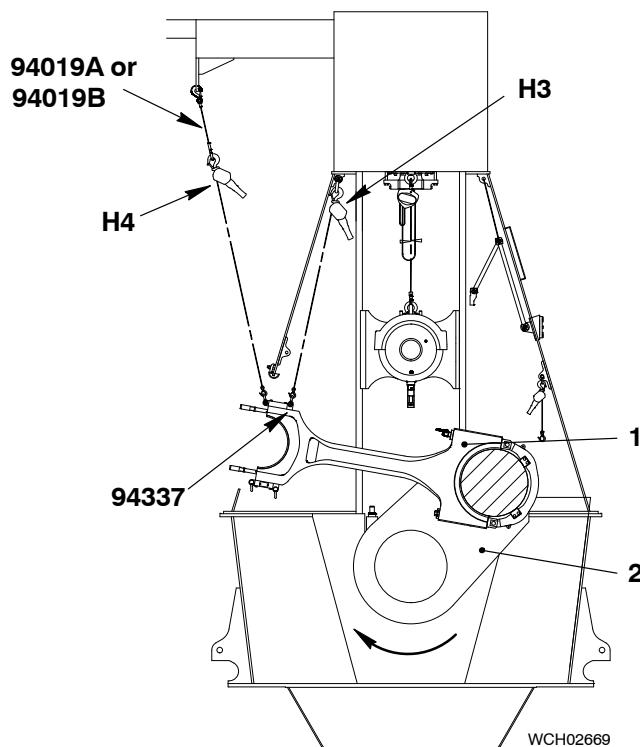

Fig. 15
- 18) Use the turning gear and the manual ratchet (H4, Fig. 15) to move the connecting rod (1) and crankshaft (2) clockwise into the position shown.